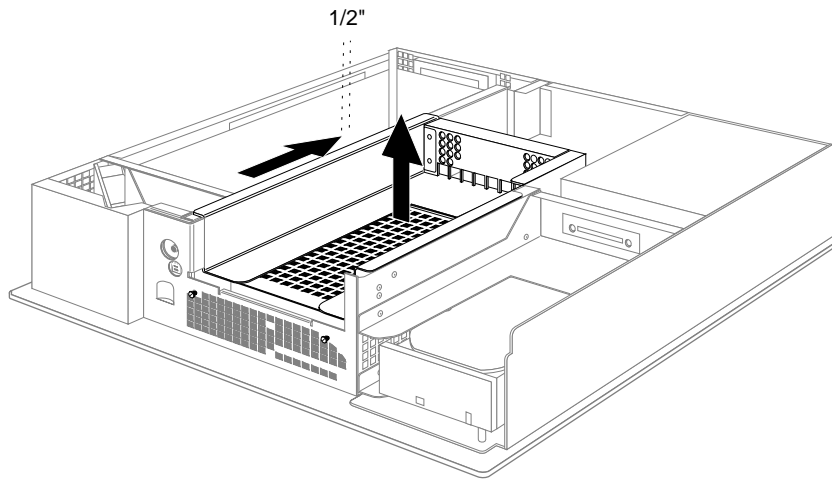

Figure 8-14 Removing the 5-1/4" Drive Tray From the Indigo² Chassis
- Push the drive tray toward the back of the system, and pull up to remove the tray, as shown in Figure 8-14.